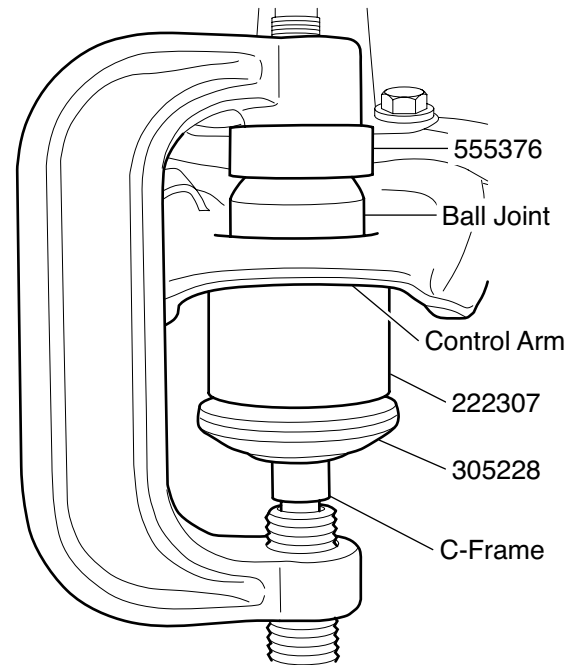

Figure 1. Ball Joint Removal
3. Position 222307, 305288 and the C-Frame as shown in Figure 1.